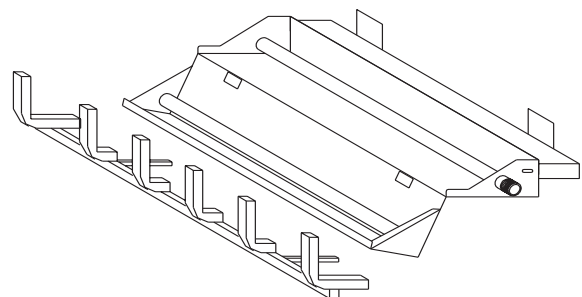
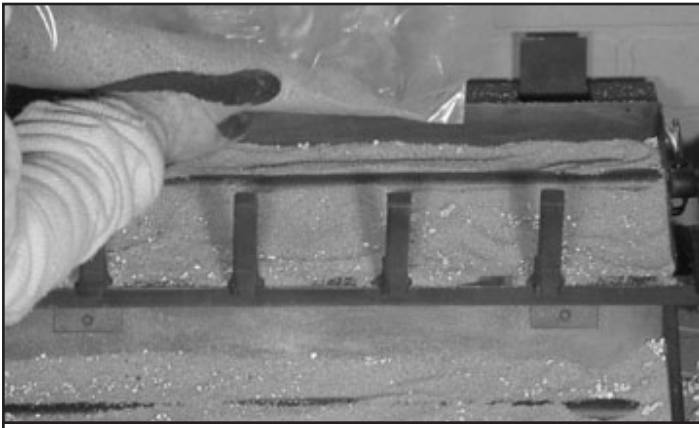

Figure 4 Placing Grate
Figure 5 Sand
- Install the grate by placing the inserts (attached to the grate) into the slots provided in the burner pan. Slide the inserts into the slots (Figure 4) and push the grate as far as possible to the locked position. GO 35 & GO 40 (not shown) grate installs in the same manner.
- For propane (LP) installations skip to “J for Propane Gas Installation”.
- Pour sand into the burner pans to the point where the burner pipe is covered. See Figure 5. Level the sand from right to left to ensure an even flame pattern. At this point the pan should be half full. Be sure not to cover pilot assembly.